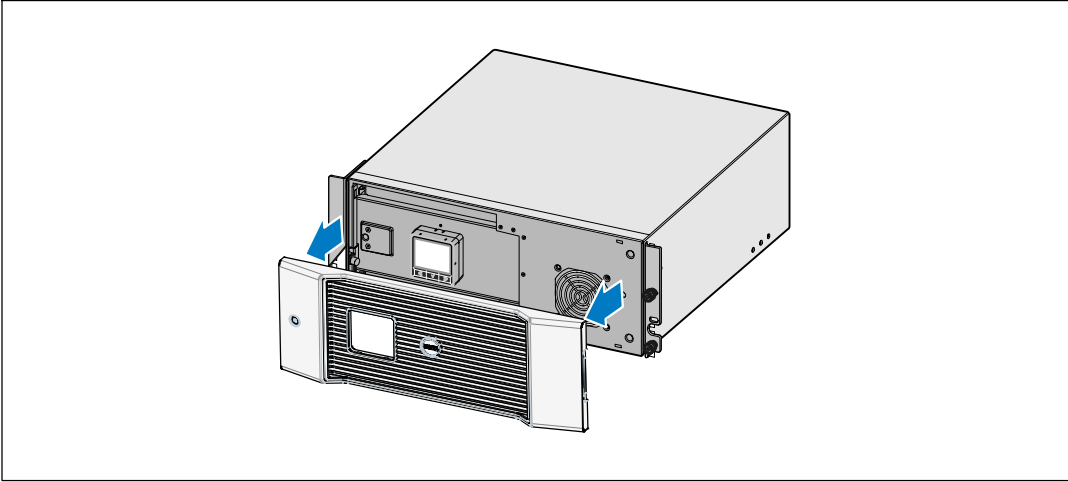

Figure 27. Removing the UPS Front Cover
- 3 Remove the UPS front cover (see Figure 27).